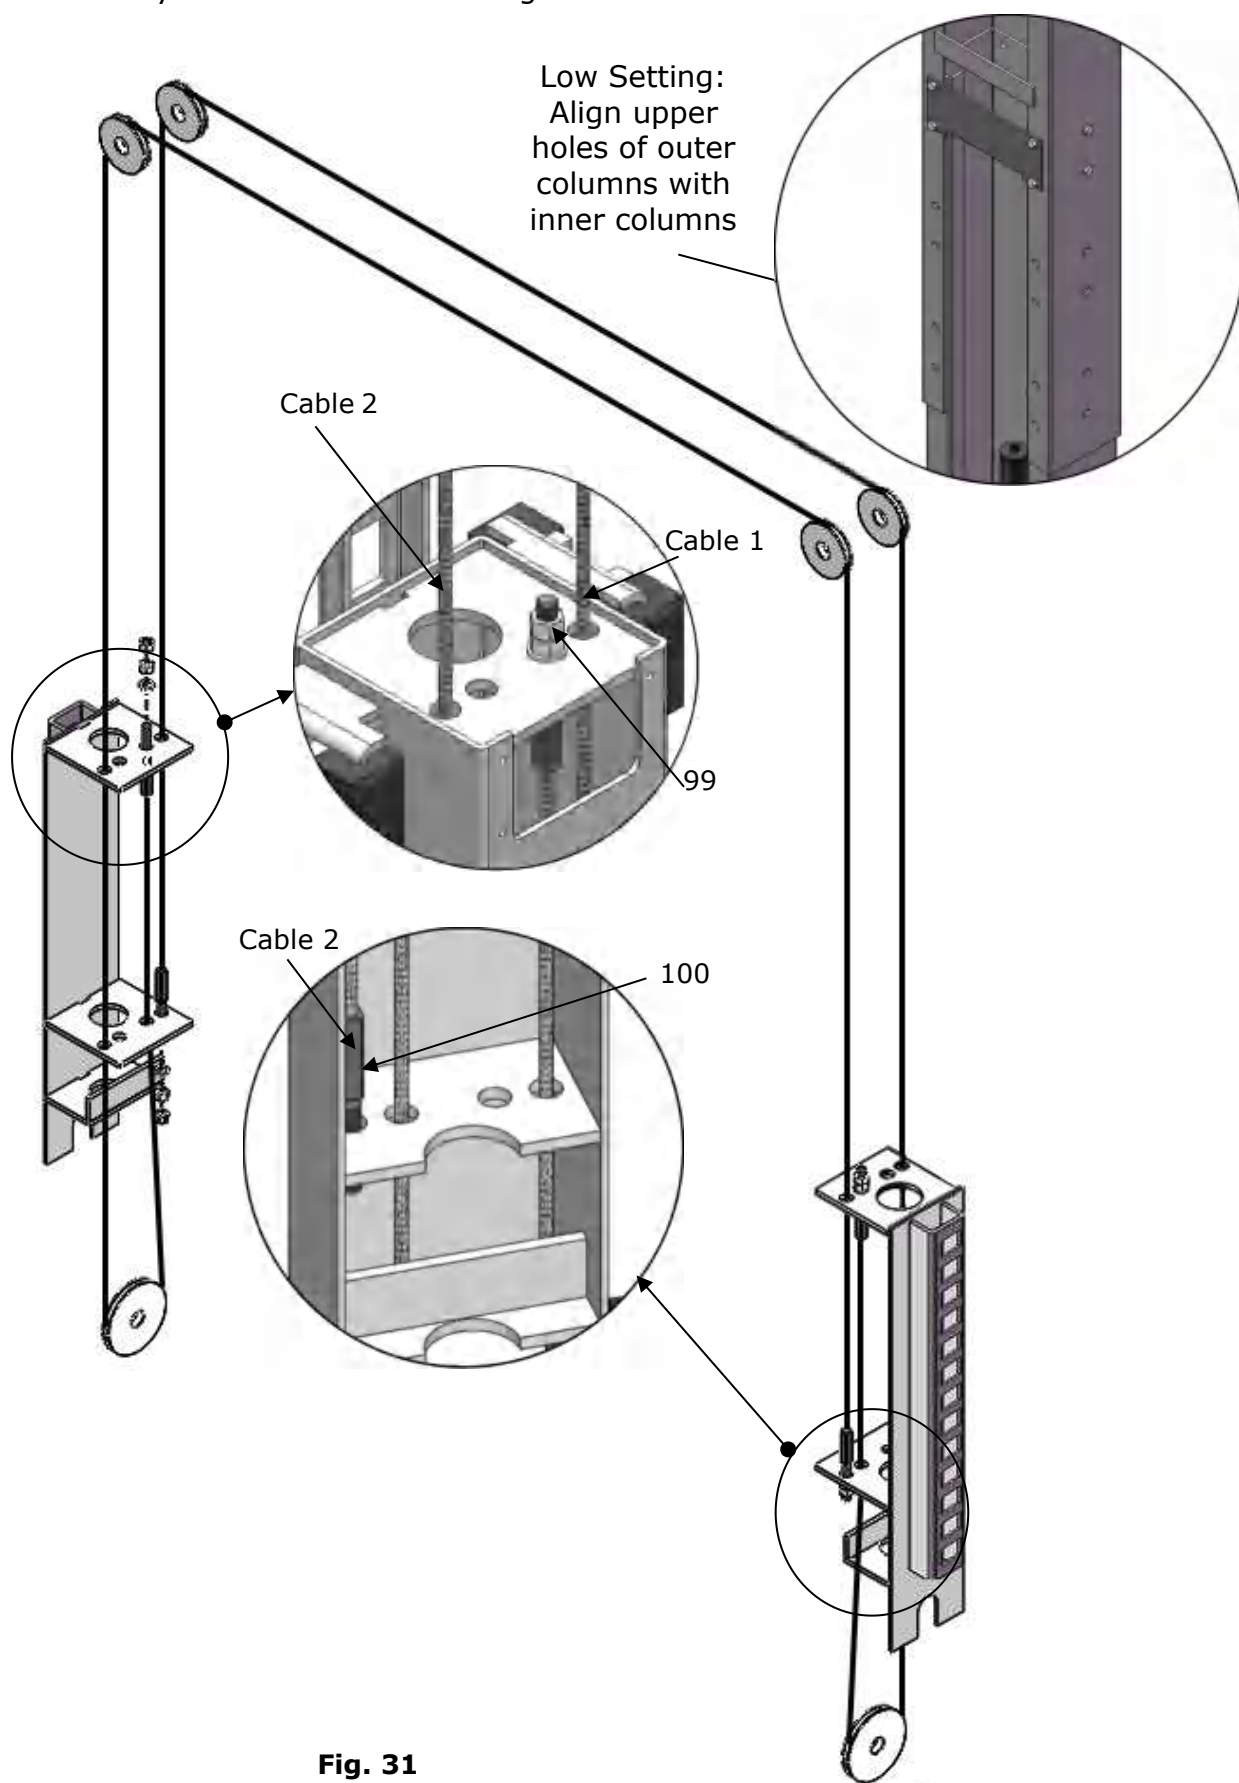

Fig. 31
3. Sync cable connection of low setting installation. **(See Fig. 31)**